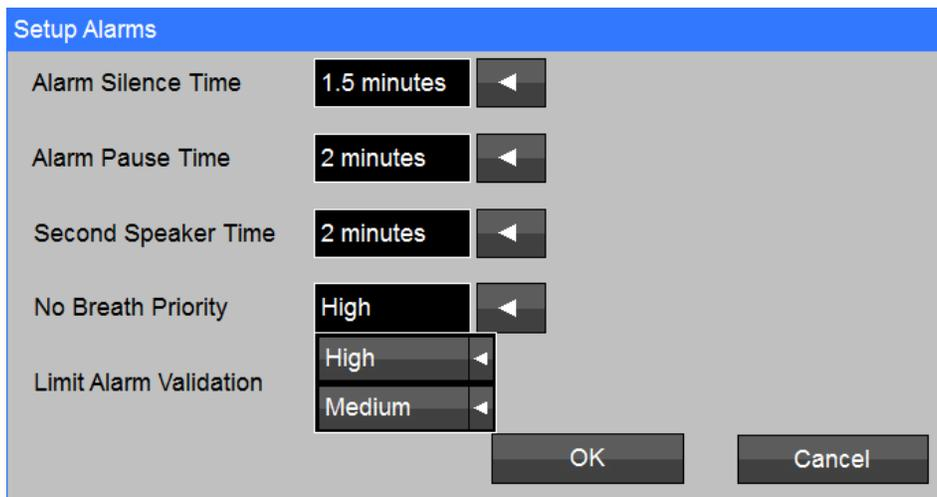

Figure 7: Setup Alarms - No Breath Priority
- 4) Adjust the desired No Breath priority to the desired selection (Refer to Figure 7).